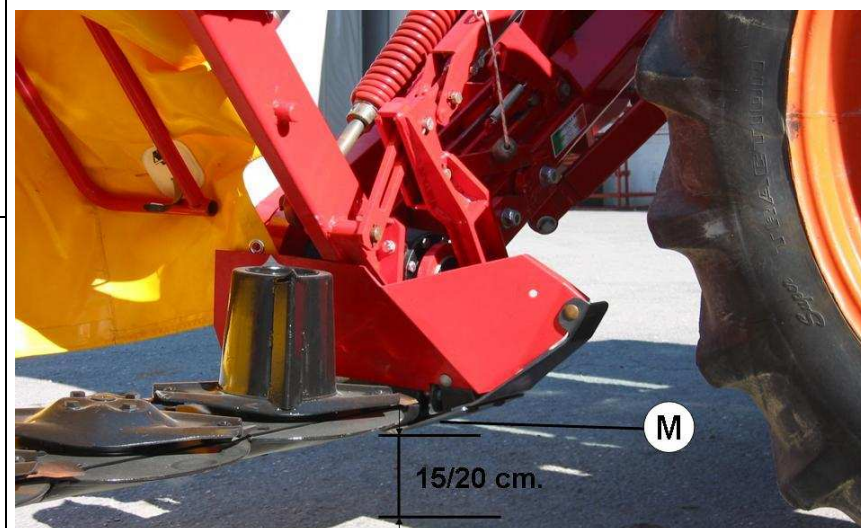

Fig. 27
- 3) Lift the bar using the tractor's hydraulic lift, positioning lower slide **M** at about 15-20 cm from the ground (Fig. 27).